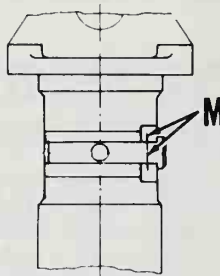
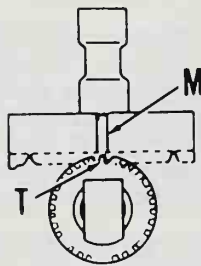

Fig. K1-14—Marks (M) on injection pump body and rack should align.
Fig. K1-15—Mark (M) on rack should align with control sleeve master tooth (T).
If rack (9) is removed and must be reinstalled, align marks (M—Fig. K1-14) on pump body and rack and master tooth (T—Fig. K1-15) must align with mark (M) on rack.